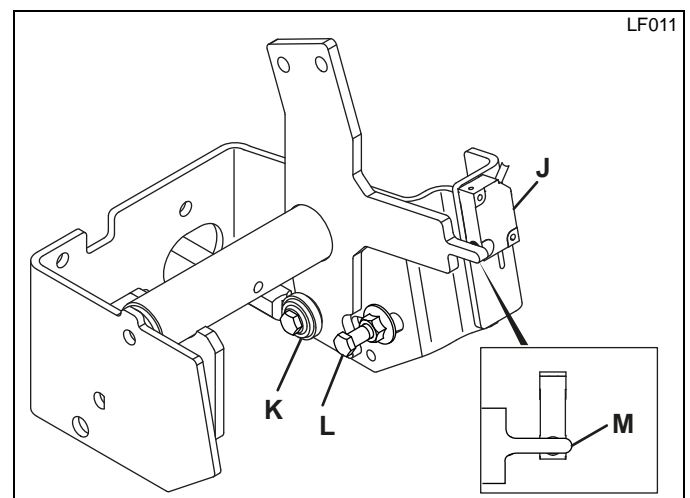

Figure 3K
4. Engage parking brake and set mow switch to neutral. Make sure neutral switch at traction pedal is closed. (Figure 3K - **M**). Distance between the switch and metal pointer "M" must be between 1/16 and 1/8 in. (1.5 and 3 mm).
6. Connect traction linkage. When connecting linkage at traction pedal, make sure pointer on traction pedal bracket is centered over neutral switch **(M)** -Figure 3K).